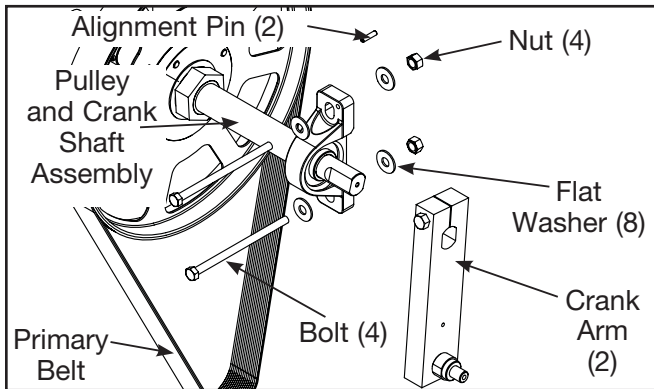

Figure 11
- A. Place the assembly into the primary belt and slide the pins into the holes on the frame. See Figure 11. **NOTE:** You may need to tap the pins in so they are flush with the top of the pillow blocks.
- B. Using a 9/16" socket wrench and a 9/16" open end wrench, secure the two bolts, four flat washers and two nuts (removed in step 11B) to each pillow block. See Figure 11.
- A. Slide each crank arm in place. See Figure 11. **NOTE:** The face of each crank arm should be flush with the end of each shaft.